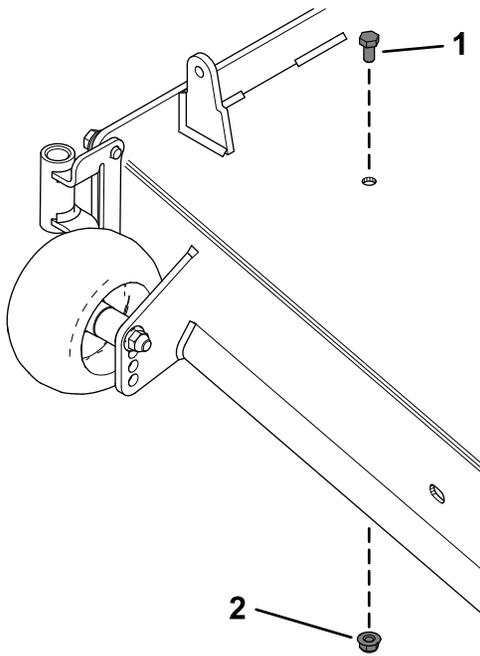

Figure 9
- Remove the existing bolt and nut from the mower deck (Figure 9).